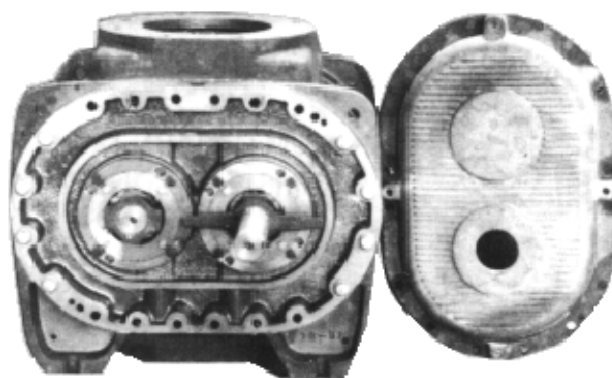

FIGURE 17 - DRIVE END
To check or establish the gear-end clearance, use a sleeve made to substitute for the gear and grip ring assembly (items 5 and 6 on the parts cross section, FIGURE 17, page 31). With the gear locking clamp in place over the shaft end, and against the spacer sleeve, tighten the cap screws to 40 ft. lbs/5.4 kg-m torque. Check the clearance between the impeller ends and gear headplate. Add or remove shims behind the cartridge flange to establish the clearance given in FIGURE 11, page 14. Then remove the spacer sleeve and install gears, grip rings and locking clamps as outlined in "Setting Impeller Clearances," page 15. Note finished torque value.
Refer to FIGURE 17. Remove the drive cover. Unbolt and remove the oil slinger from the shaft, noting its relative position for later replacement; spread slightly to avoid scratching the shaft. The bearing cartridges can now be removed following the procedure described
Reference Figure 17, Page 31, for Exploded View